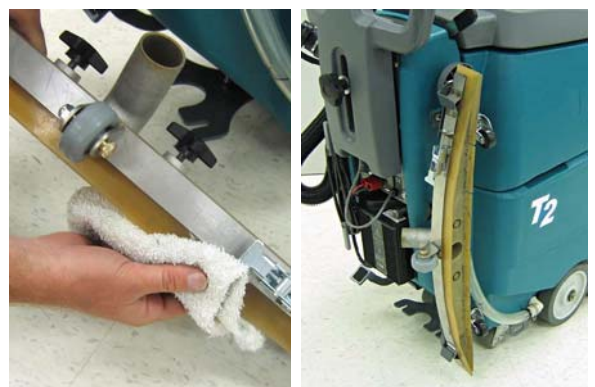

FIG. 39
6. Wipe the squeegee blades clean (Figure 39). When machine is not in use, raise squeegee assembly off floor or hang on storage bracket.